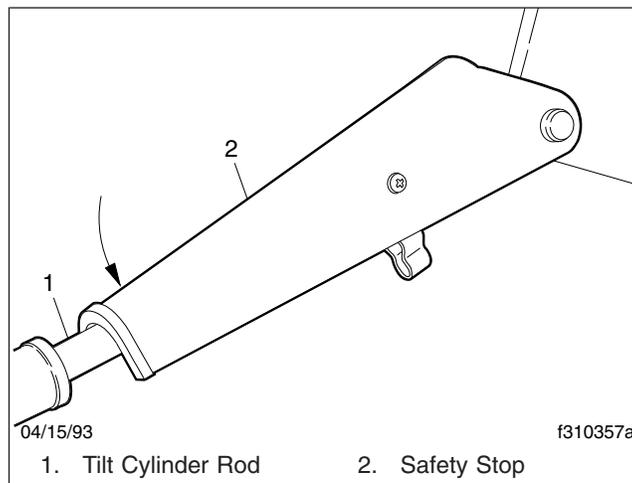

Fig. 18, Safety Stop Engaged
- When the cab reaches a 30-degree angle, stop tilting the cab by letting go of the pump button. Engage the safety stop on the right tilt cylinder rod. See **Fig. 18**. The safety stop prevents the cab from accidentally dropping below this position.